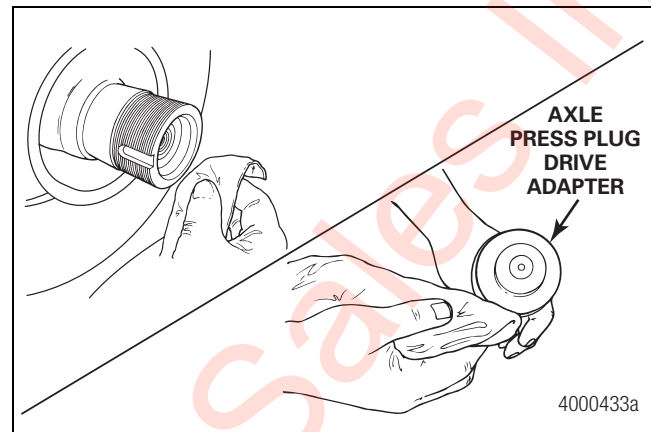

Figure 2.26
20. Wipe off all retaining compound residue from the spindle and axle press plug drive adapter. Figure 2.26.